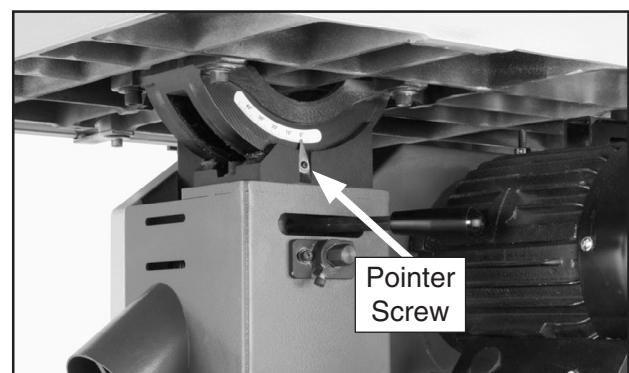

Figure 28. Table tilt pointer.
3. Loosen the screw on the table tilt scale pointer (see **Figure 28**), but do not remove it.